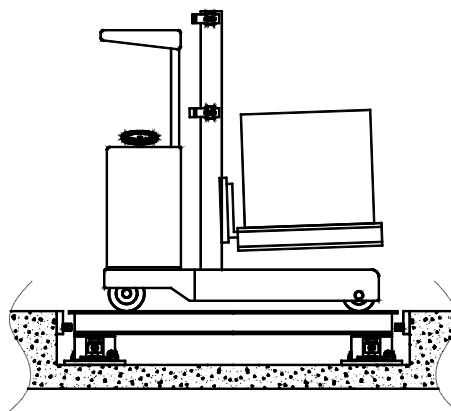

Figure 6-13: Platform Scale, Drive-On
- **Platform Scale, Drive-On:** If a platform scale is used to weigh motorized vehicles such as forklifts, large horizontal forces can result when the vehicle stops. Typically, settling time is not critical in these applications. The normal configuration is to allow the scale to float freely (no stabilizers) but with external bumper bolts to restrict horizontal movement. The bumper gaps should be small enough so that the platform bumps against the external bumpers before contacting the weigh module's bumpers (see Figure 6-13). NOTE: Although stabilizers are not required for this type of dynamic scale, we recommend using external stops or checking.